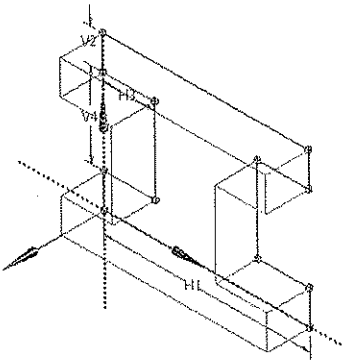
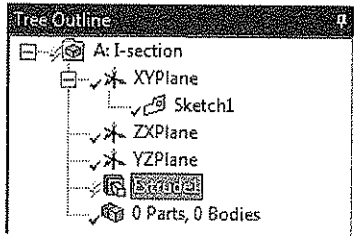

Figure 3-33 The preview of feature after choosing the **Extrude** tool
Figure 3-34 The Tree Outline with **Extrude 1** added to it
- 2. Choose the **Extrude** tool from the **Features** toolbar; the preview of the extruded feature with default values is displayed in the **Graphics** window, as shown in Figure 3-33. Also, **Extrude1** is added under the three default planes in the Tree Outline, as shown in Figure 3-34.